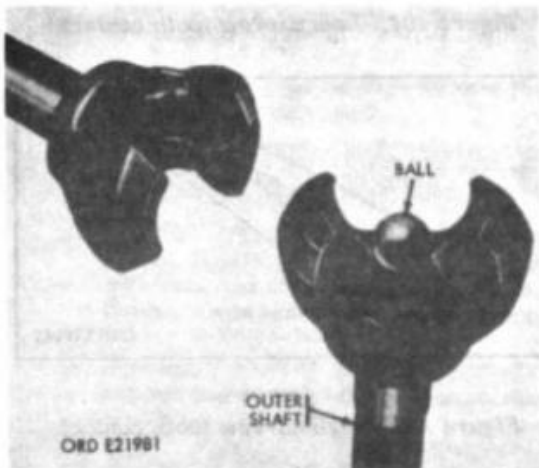

Figure 106. Installation of intermediate pin and ball
b. Installation of Intermediate Pin and Ball (Fig. 106). Insert pin into drilled passage in outer shaft. Hold outer shaft in vertical position and position intermediate ball in socket of outer shaft.